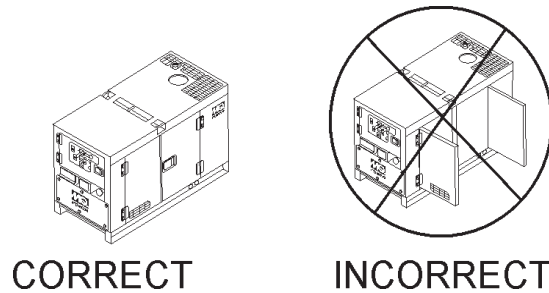

Figure 42. Engine Enclosure Doors
3. Close all engine enclosure doors (Figure 42).